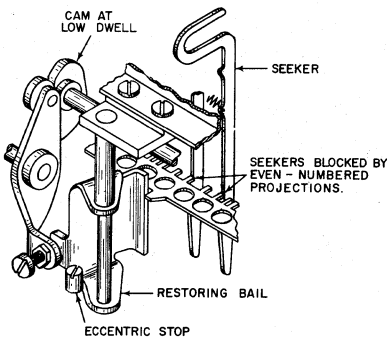

Figure 11
- Release all of the permutation bars with the permutation bar restoring bail lever at the low dwell of the restore cam (Figure 11). Loosen the locking nut and adjust the eccentric stop for the restoring bail so the permutation bars are located with the even numbered projections centered in front of their respective seekers. This may allow lost motion of the restoring bail lever, which is permissible. Once the clutch is adjusted, this lost motion will not be evident at home position.